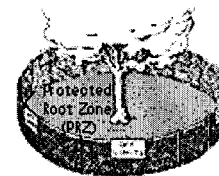

Figure 5. Put up fences and signs around trees you want to save to alert construction workers to damage potential.
4. **Protect the trees you plan to save.** Develop a map with the builder or architect showing the location of trees to be protected and the safest route for access to the building zone. Then install bright orange polypropylene fencing and post "Off Limits" signs at the PRZ of the trees you plan to save (Figure 5). Your primary objective is to protect delicate root systems, so provide your trees with as much space as possible. Make sure all construction workers know that nothing inside this area is to be raked, cut, stored, or otherwise disturbed. A landscape protection contract signed by the builder and all contractors will help ensure compliance. Take several photographs of the site before construction begins to document the protection methods used and the condition of individual trees.